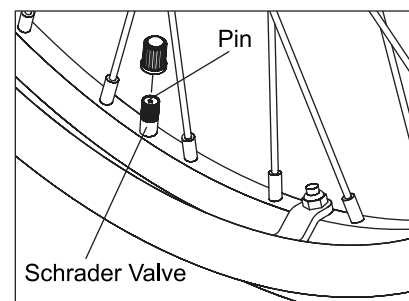
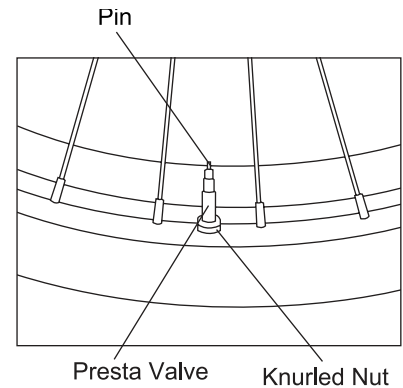

Figure 103
Figure 104
2. Remove all air from the inner tube. If you have a Schrader valve (see Figure 103), remove valve stem cap and release all of the air from the tube, by pressing down on the pin in the center of the valve stem. If you have a Presta valve (see Figure 104), remove the valve stem cap, unscrew, counter clockwise, the knurled nut on the valve stem and release all of the air from the tube by pressing down on the pin in the center of the valve stem. **Note:** If you have a solid tire, do not remove it from the wheel unless you have the proper equipment to permit you to reinstall it after changing the handrim.